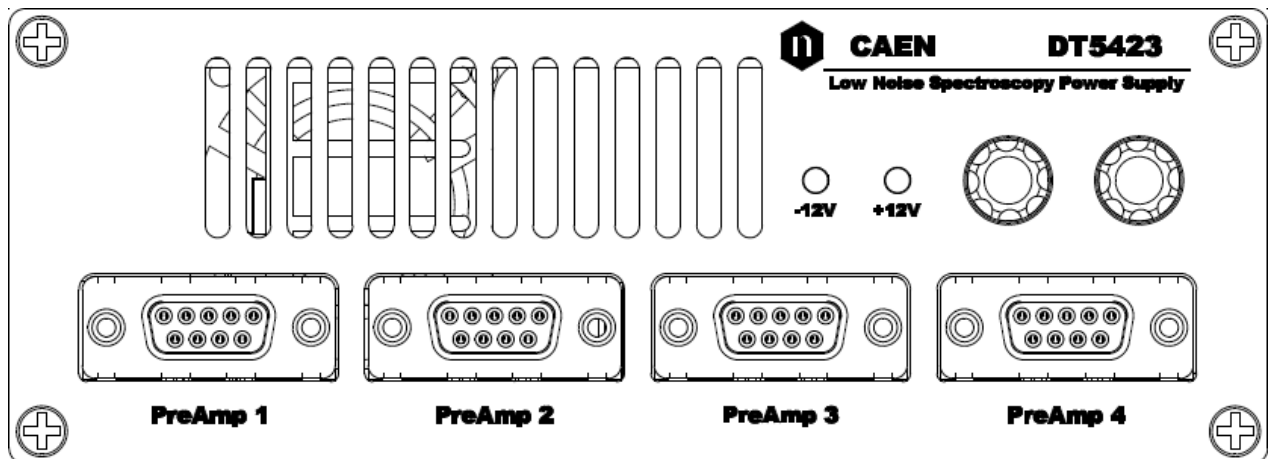

Fig. 2 – DT5423 front panel
- Fig. 2 – DT5423 front panel 7